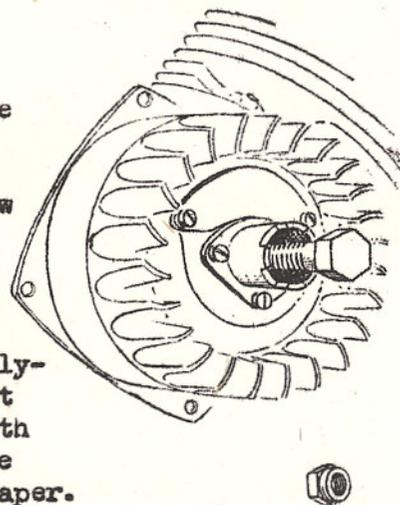

Fig. 13
- (1) The only magneto adjustment is at the contact points. The point gap should be maintained at 0.020".
- (2) To gain access to the contact points for adjustment, the flywheel must be removed, although if only a check is required on the contact point gap, this can be done through the inspection plate in the flywheel. To remove the flywheel proceed as follows :-
- (iii) Remove the starter dog, which is held on to the flywheel by three wired  $\frac{1}{4}$ " U.N.C. screws. Next remove the  $\frac{7}{16}$ " U.N.F. nut holding the flywheel to the shaft. Refit the starter dog which has a  $\frac{1}{2}$ " U.N.F. thread incorporated in its bore. Screw into this thread the  $\frac{1}{2}$ " U.N.F. bolt supplied in the toolkit until it bottoms firmly on the end of the shaft. Tighten the bolt with a spanner. If the flywheel does not come off a smart tap on the head of the bolt with a  $\frac{3}{4}$  lb. hammer will release the flywheel from the crankshaft taper. (Fig.13).